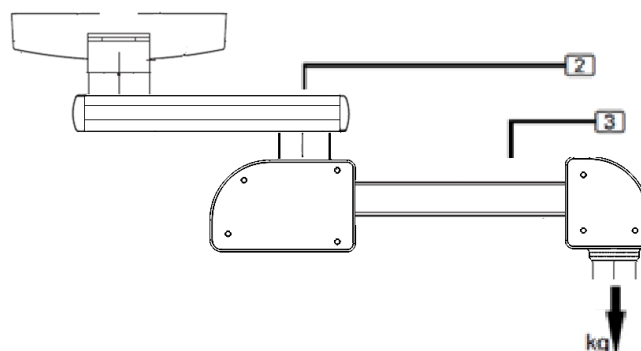

Fig.18 Load application point
The maximum load capacity is the maximum weight that can be supported by the arm or set of arms, in the case of the example shown in Figure 18 a configuration with one extension arm (2) and one motorised arm (3) is shown. The maximum load is counted as applied on the vertical axis about which the service head will rotate.